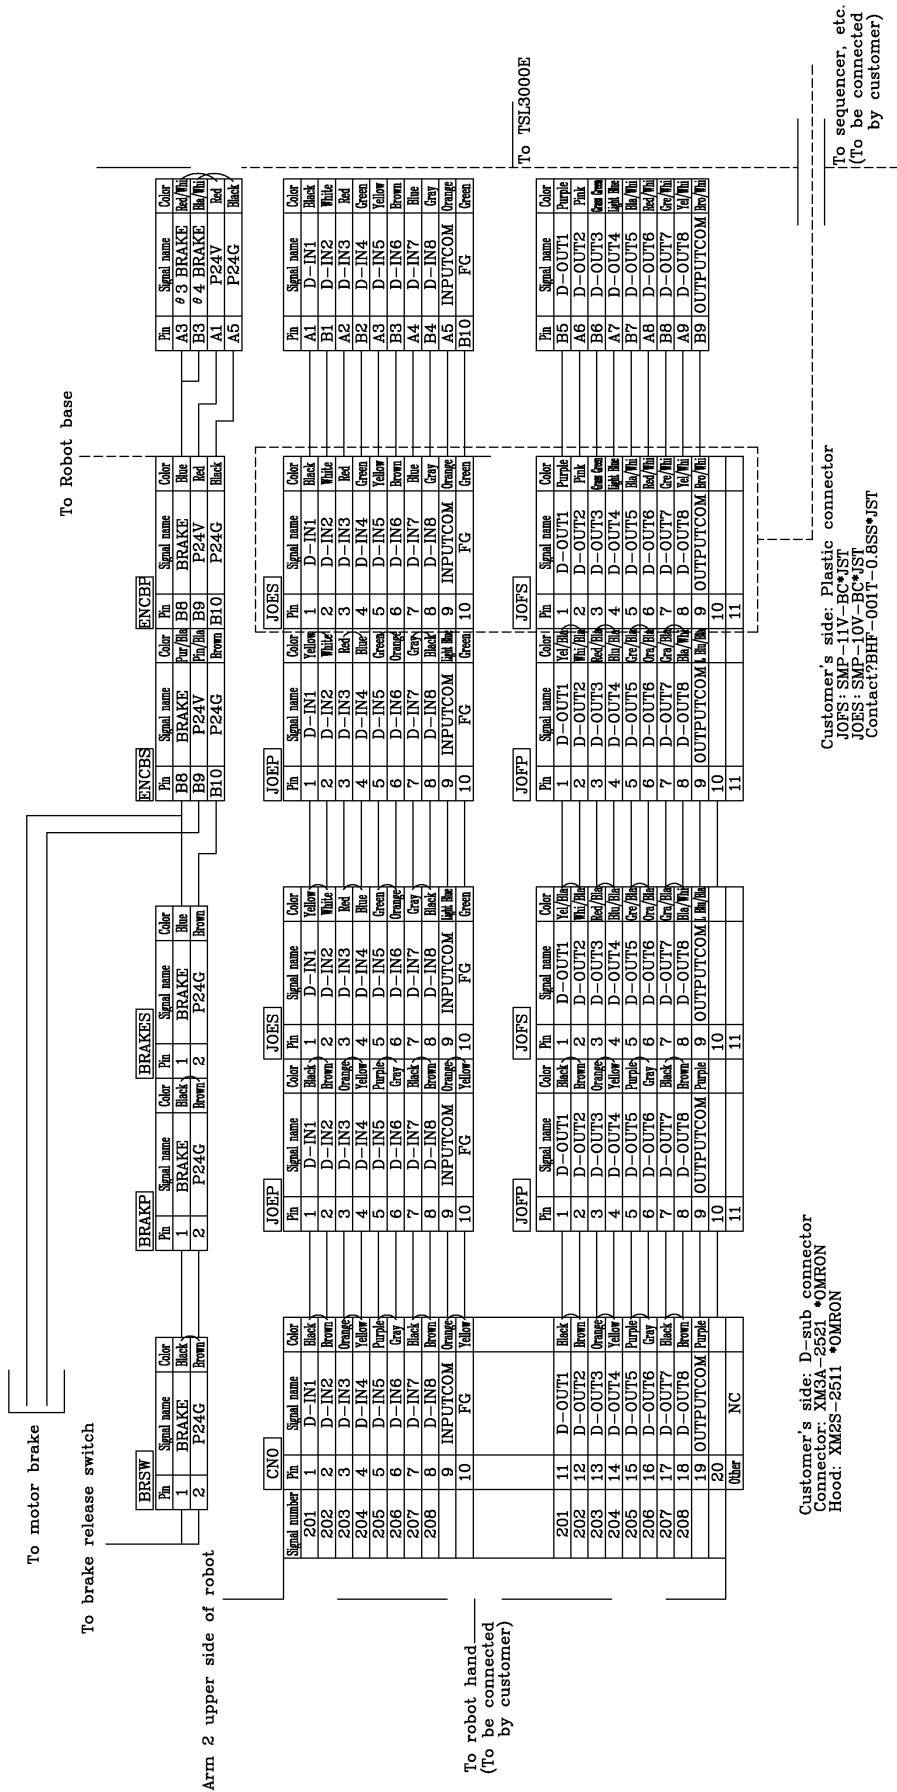

Fig. 20.7 Tool wiring (Common to Type-N, Type-P and TSL3000E)
Eight (8) input signals are provided for sensors, etc. and eight (8) control signals for solenoid valves, etc. A supply power signal of 24 VDC is also provided. They are connected to the controller. The wiring arrangement for these cables is shown in Fig. 20.7. The wires are connected to the connectors on the upper side of Arm 2. The user should provide the following connectors to connect the cables.